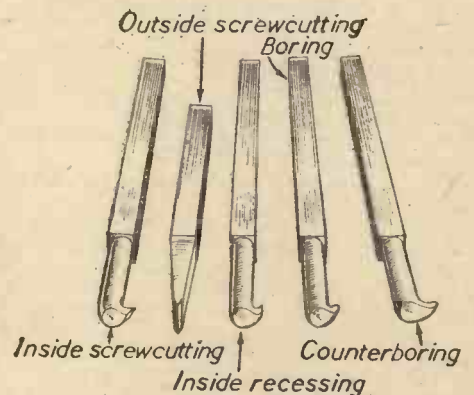

Fig. 28.—Screw-cutting and boring tools.
**Outside and Inside Screw-cutting Tools.**—Both made with top- and side-rake. Front clearance of inside tool as for boring tools. Main cutting should be done on leading flank of tool by feeding top slide along slightly as well as increasing depth of cut. Allow both flanks to cut on last one or two cuts (see Fig. 28).
**Boring Tools.**—Boring tools are shown in Fig. 28 below. The round-nosed tool (Fig. 28) is suitable for straight-through holes, and has both top- and side-rake. The counterboring tool can be used for boring into corners or flat bottoming; has both top- and side-rake. The recessing tool is suitable for cutting oil channels in bushes or bearings, etc. Made with top-rake only. To prevent interference by rubbing, the clearance face should be reduced in depth to that shown.